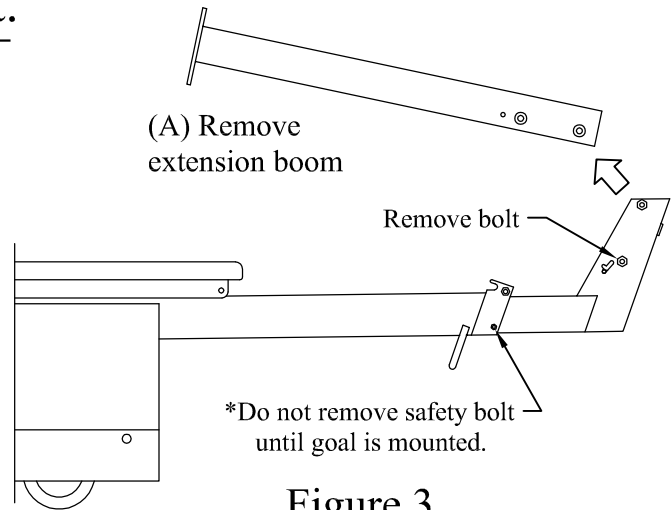

Figure 3.
- (A) Unscrew 1/2" bolt and remove extension boom till later step. See fig. 3